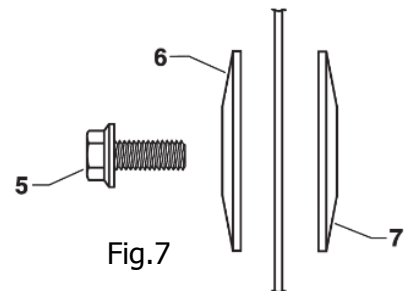

Fig.7
6. Remove the blade bolt 5, blade collar 6 and the blade. Inner washer 7 does not need to be removed (Figure 7)
8. Install the blade collar 6 in the proper orientation, then install blade bolt 5 (Figure 7). Tighten blade bolt 5 finger tight. Press the arbor lock and tighten blade bolt 5 securely, but do not overtighten.